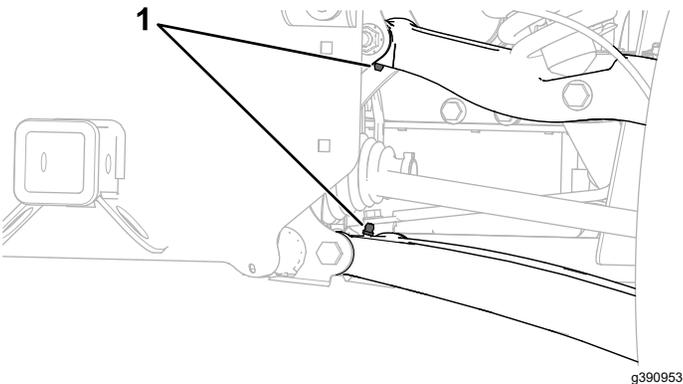

Figure 24
- **Rear-control-arm pivots (4);** refer to Figure 24